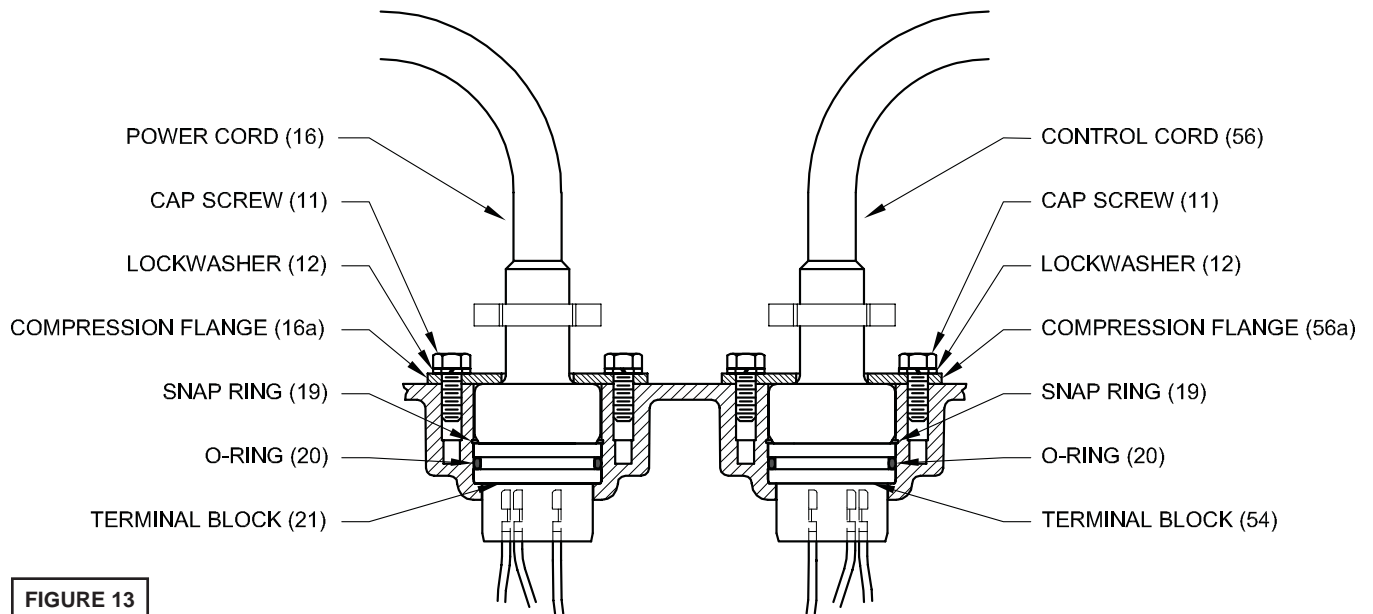

FIGURE 13
Check power cord (16) and control cord (56, if used), for cracks or damage and replace if required (see Figure 13). Make internal wiring connections which are independent of the terminal block as shown, using connectors (48) and wire assemblies (49) as required. Do not use wire nuts. Slip motor leads and ground wire through fiberglass sleeve. Lower motor housing (6) down onto seal plate (5) while aligning holes and stringing motor leads through the cord entry bore(s). (Slipping cords inside a 1 ft. length of .5" conduit makes this easier).